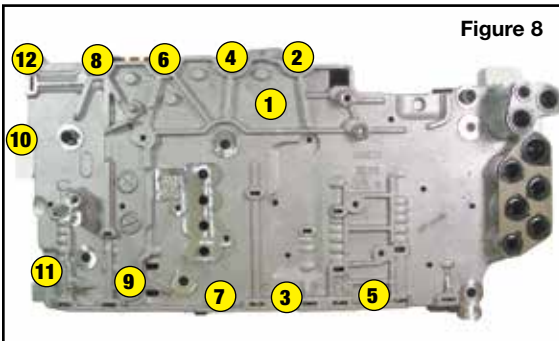

Figure 8
- Remove the 12, 7mm head bolts (**Figure 8**).
- a. Install the 12, 7mm head bolts and torque to 71 in-lbs. in sequence shown (Figure 8).